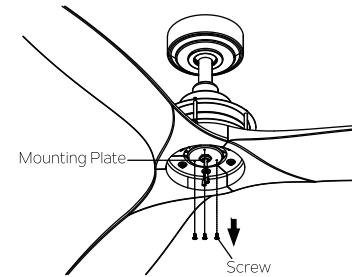

Fig. 18
Step 1. Remove the three mounting screws preinstalled on mounting plate and keep for later use. (Fig. 18)